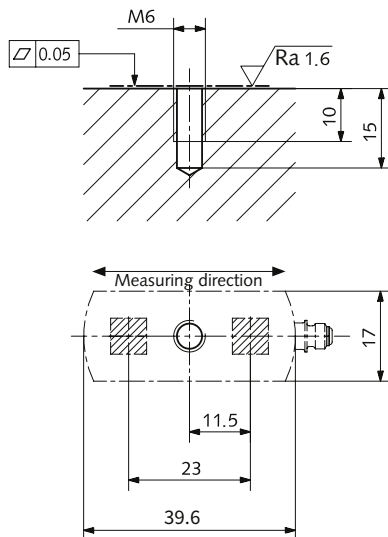

Fig. 2: Preparing the clamping surface
- Machining the surface at the measuring point and tapping the M6 thread (see Fig. 2).